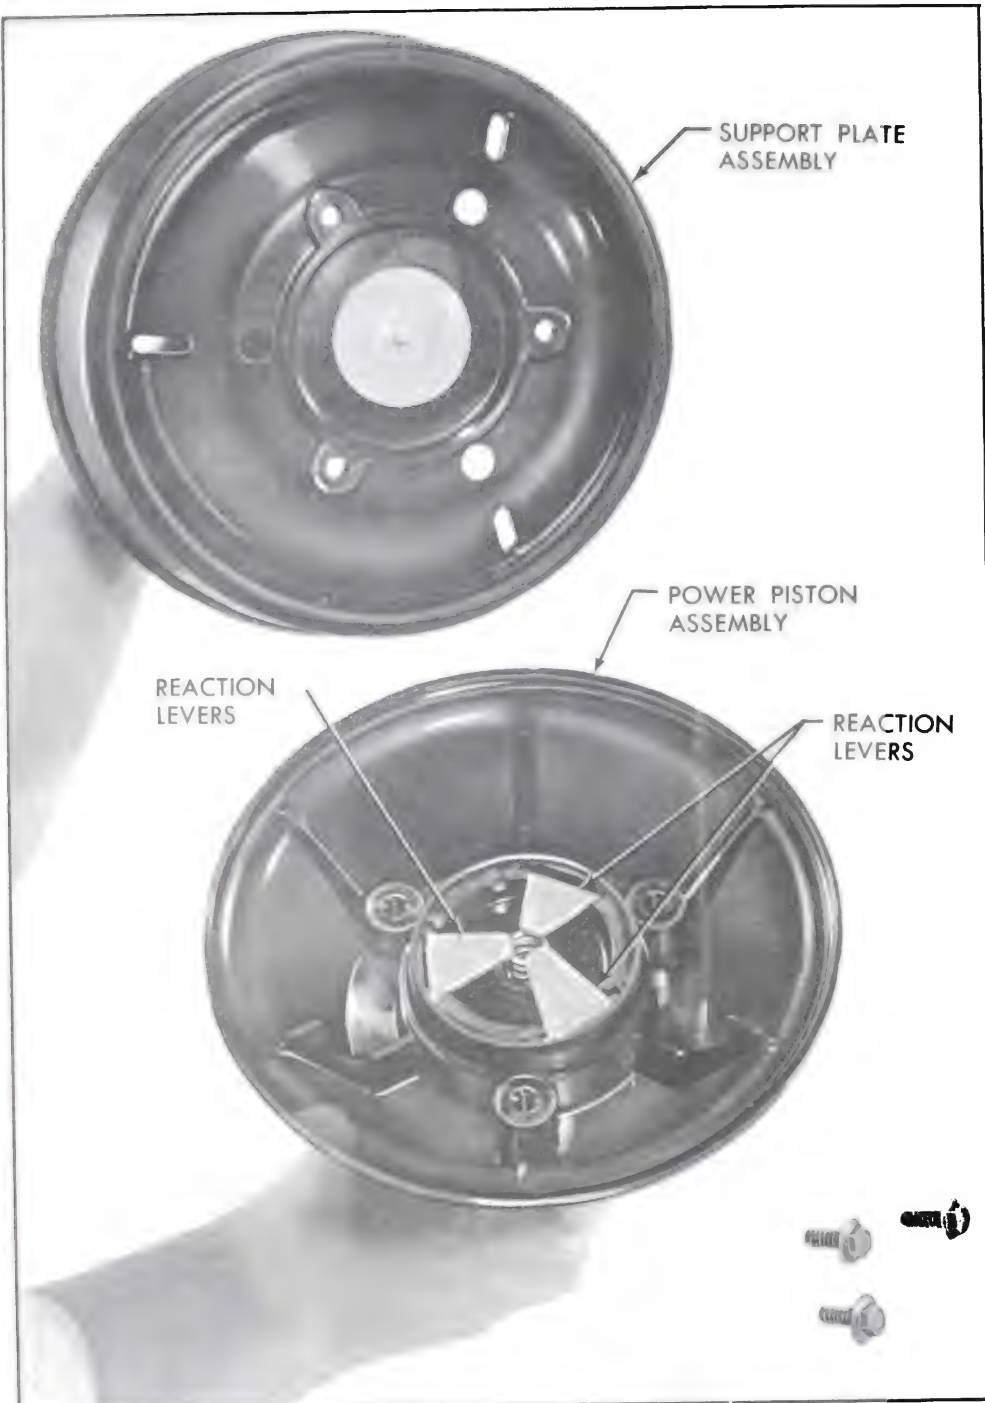

Figure 9-23—Removing Support Plate Assembly from Power Piston Assembly
10. On the power piston assembly, loosen three special hex head retaining screws. With the master cylinder push rod up, remove the screws and lift the master cylinder push rod and rolling diaphragm support plate assembly from the power piston assembly. See Figure 9-23.